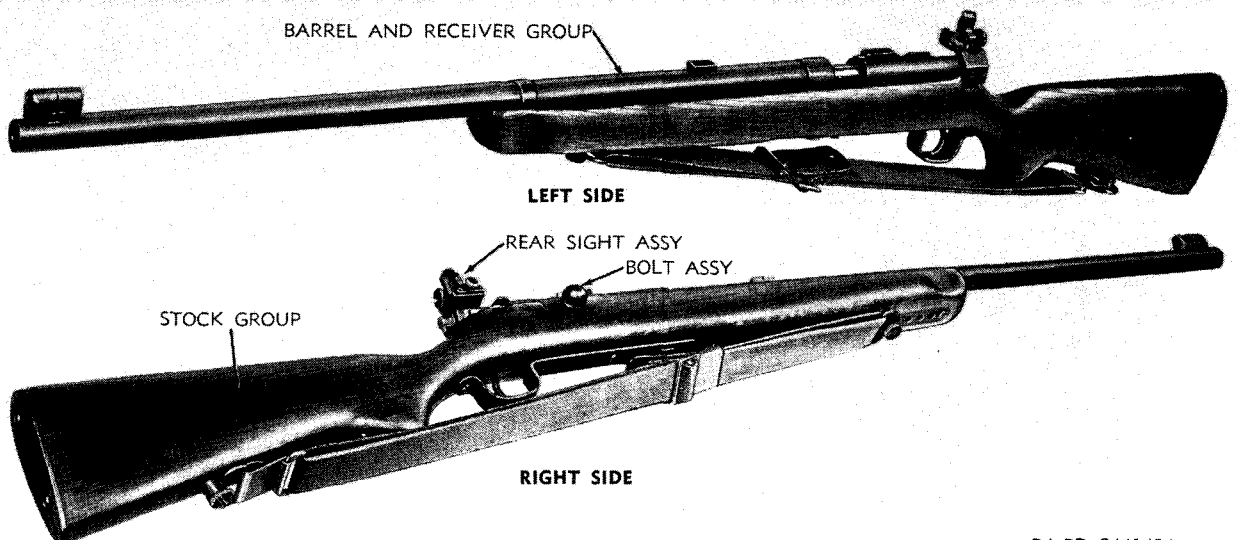
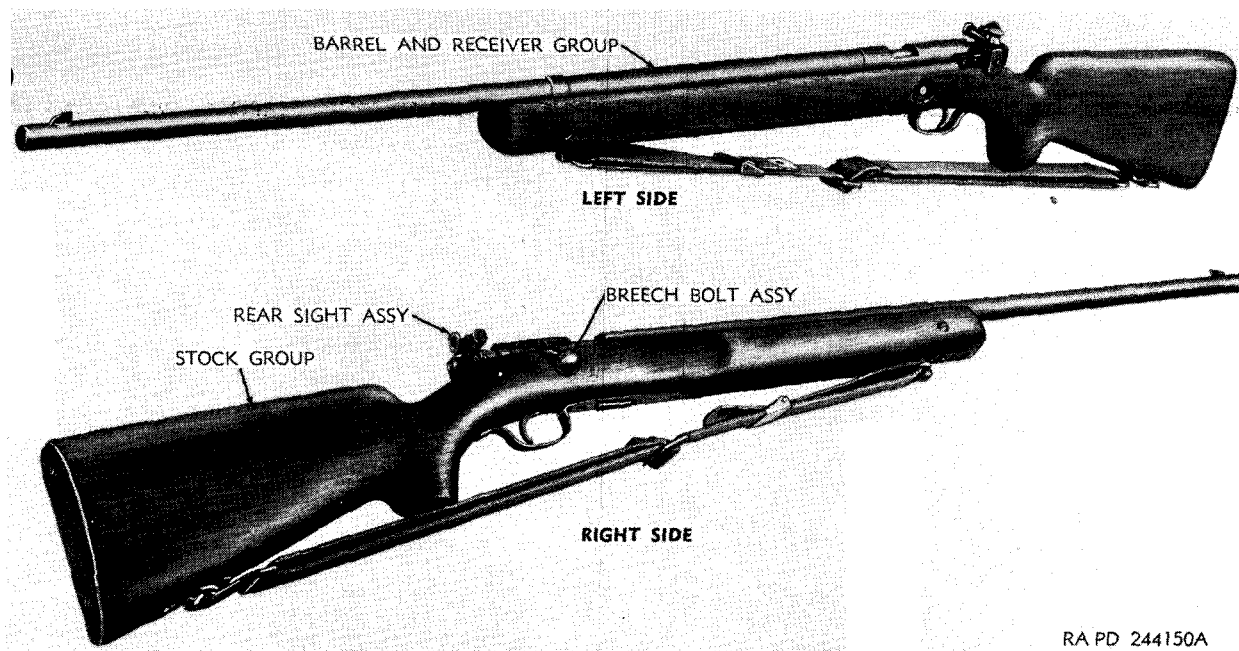
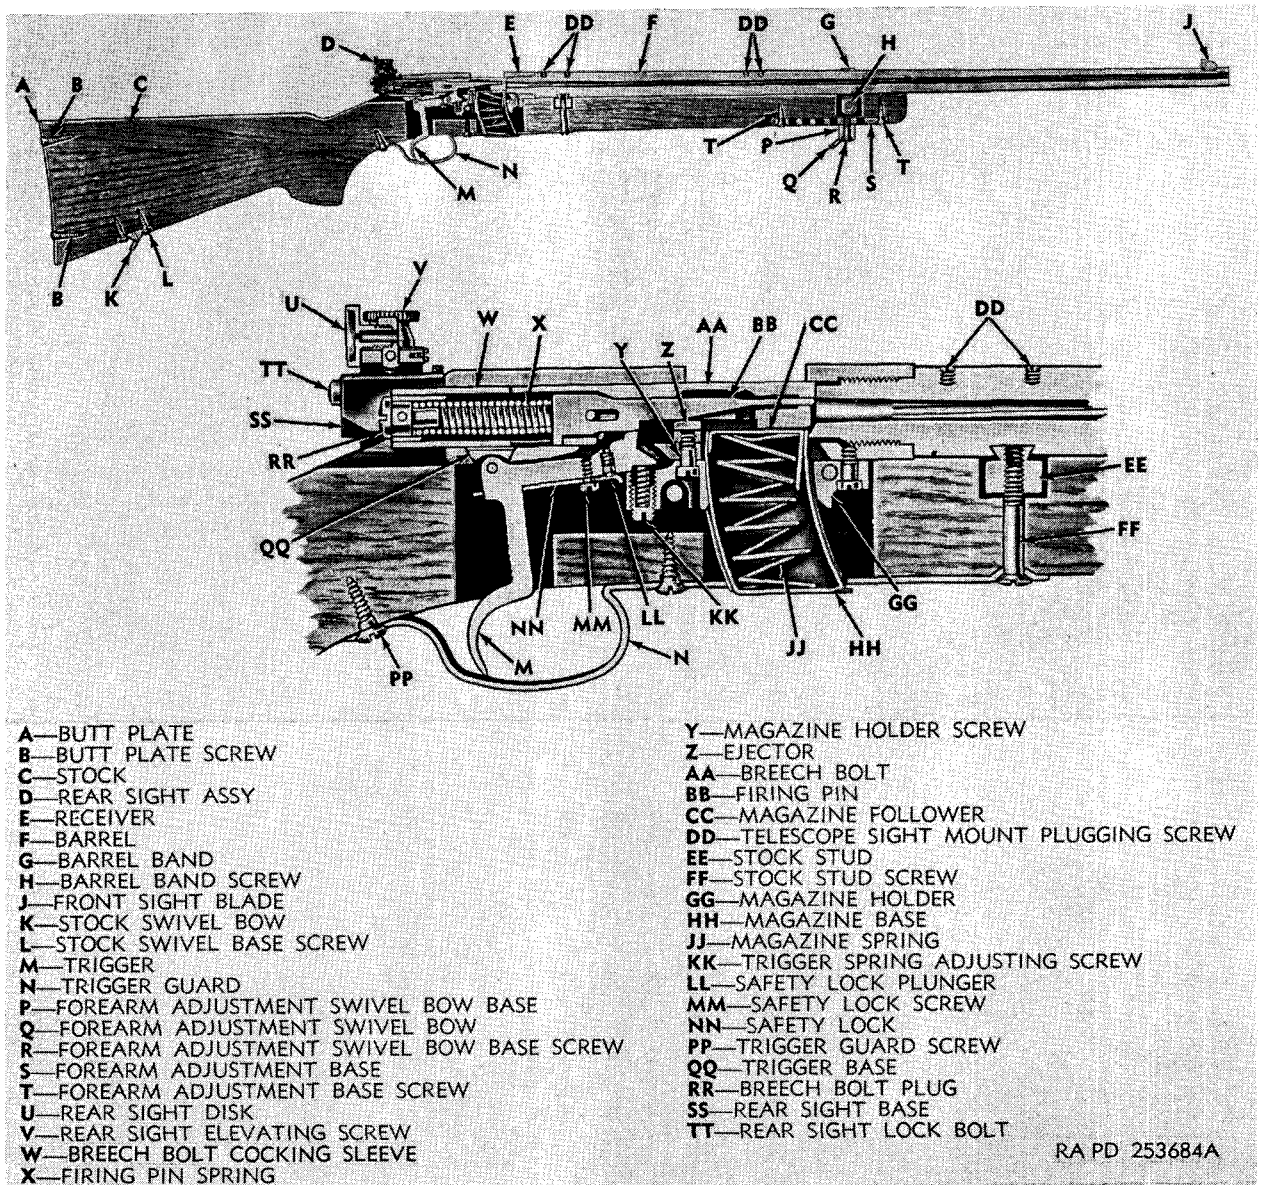

Figure 2. Cal. .22 Stevens rifle M416-2T—left and right side views.
Figure 3. Cal. .22 Winchester rifle M75T—left and right side views.
Figure 14. Winchester rifle M75T—sectional view.
cal. .22 Stevens rifle M416-2T (fig. 2), and the cal. .22 Winchester rifle M75T (fig. 3) for using units.
c. *Stevens Rifle M416-2T* (fig. 9). The Stevens rifle M416-2T (figs. 2 and 39) consists basically of the bolt assembly, the magazine, the rear sight assembly, the barrel and receiver group, and the stock group.
- (5) *Stock group.* The stock is cut out on top to receive the barrel and receiver group. The right side of the stock is cut away for the bolt handle. The front bottom of the stock is mortised to receive the front swivel plate. The front swivel plate is mounted by means of one swivel plate screw and one barrel band screw which extends through the stock and threads into the band. It has seven tapped holes for receiving the front swivel screw, with integral swivel, for adjustment of handhold with relation to the sling. The front and rear swivels are identical and serve as a means of attaching the sling to the rifle. The front swivel is mounted to the front swivel plate and the rear swivel is attached to the rear swivel escutcheon into the butt of the stock. A trigger guard (DD) is secured to the bottom of the stock by screws (R and Z). A cutout in the guard serves as an opening for the magazine (S). The butt plate is attached to the rear of the stock by two butt plate screws.
d. Winchester Rifle M75T (fig. 14). The Winchester rifle M75T (figs. 3 and 44) consists basically of the breech bolt assembly, the magazine, rear sight assembly, barrel and receiver group, and the stock group.
Note. The key letters shown below in parentheses refer to figure 14.